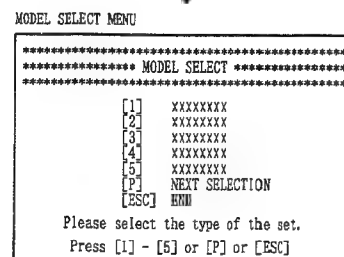
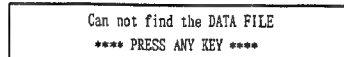

Fig. 2-6
Fig. 2-9
The MAP starts and the MODEL SELECT MENU shown Fig. 2-6 appears.
- If you select number without a model name by mistake, the message shown in Fig. 2-9 will appear in the computer's display. Press any key to return the display to Fig. 2-6 (MODEL SELECT).